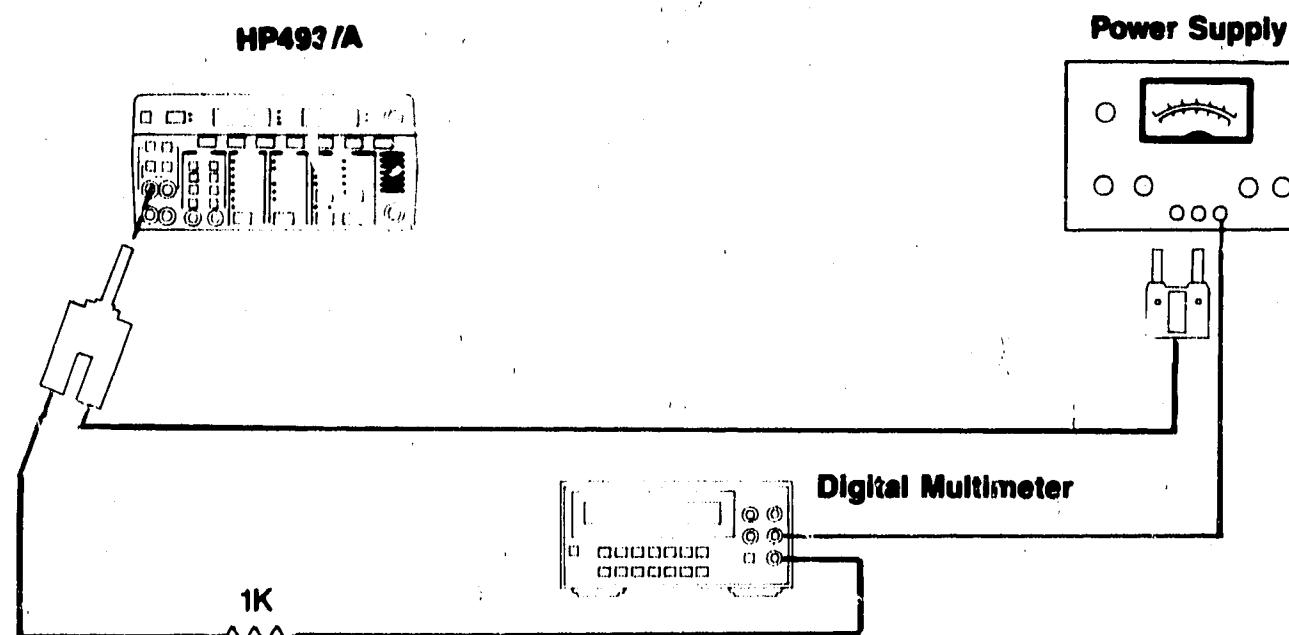

Figure 4-13. Battery Bridging Loss Test
9. Connect the equipment as shown in Figure 4-13. Put the 1K ohm resistor across the dial jacks.